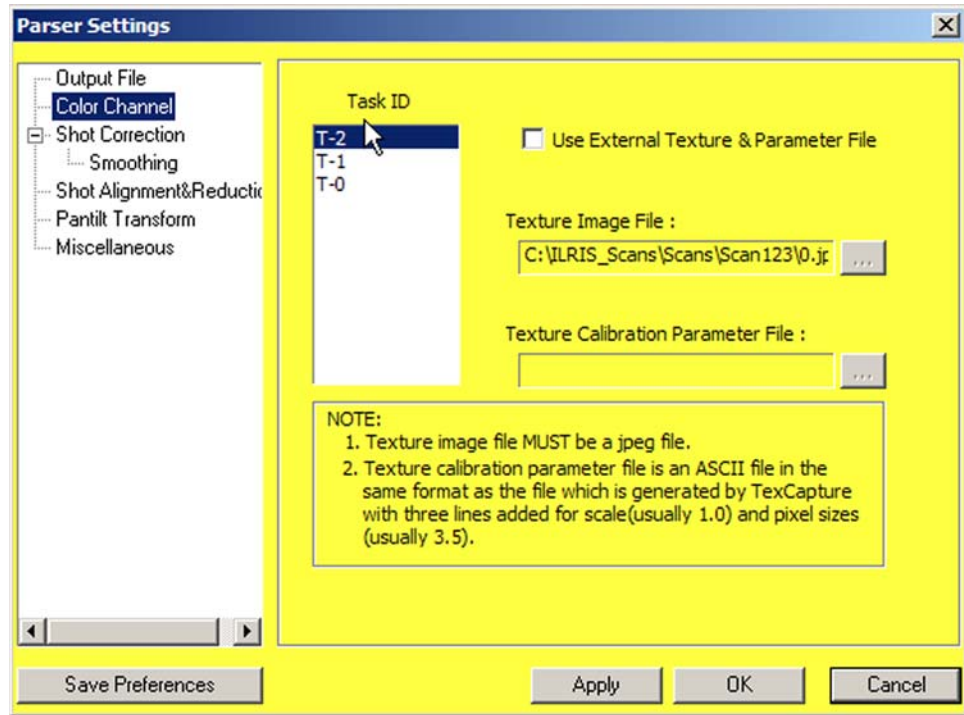

Figure 109: Color Channel settings
1. From the Parser Settings window, click **Color Channel** in the left pane, or select **Settings > Color Channel** from the main screen. The Color Channels options appear (Figure 109).